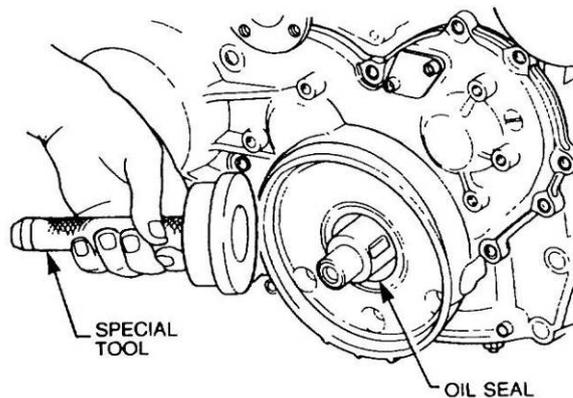

Figure 47 Installation of the Crankshaft Front Oil Seal
- a. Lubricate the outer surface of a new seal with clean engine oil and position the seal on the timing case cover. Install the seal using special tool 18GA092 (Figure 47).